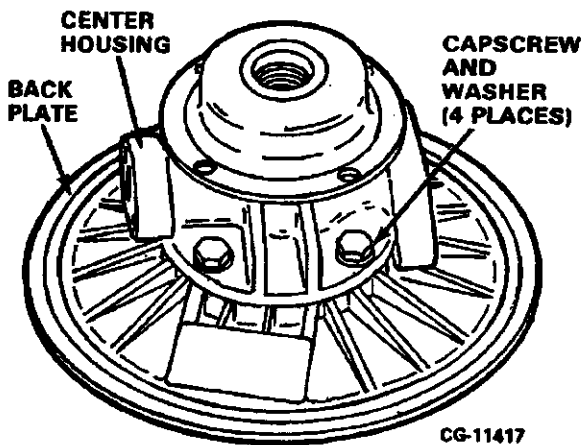

Figure 2.28. Center Housing and Back Plate Disassembly
- Place the center housing and back plate on a bench and remove the capscrews and washers which secure the center housing to the back plate. Refer to Figure 2.28. Carefully lift the center housing from the back plate.